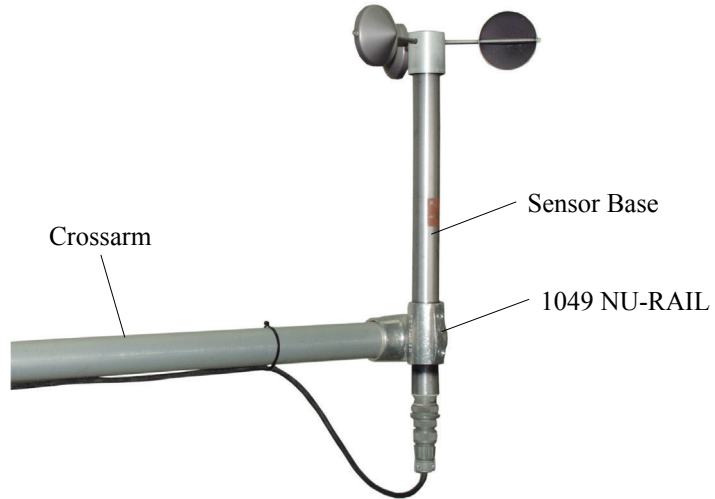

FIGURE 4-3. 014A mounted on a crossarm with pn 1049
- 1049 3/4 x 1 inch NU-RAIL[®] Crossover Fitting (FIGURE 4-3), or
3. Insert the base of the 014A into the 1049 NU-RAIL or CM220 U-bolt (FIGURES 4-3, 4-4) and tighten the set screws on the NU-RAIL, or U-bolt on the CM220 (do not over tighten).